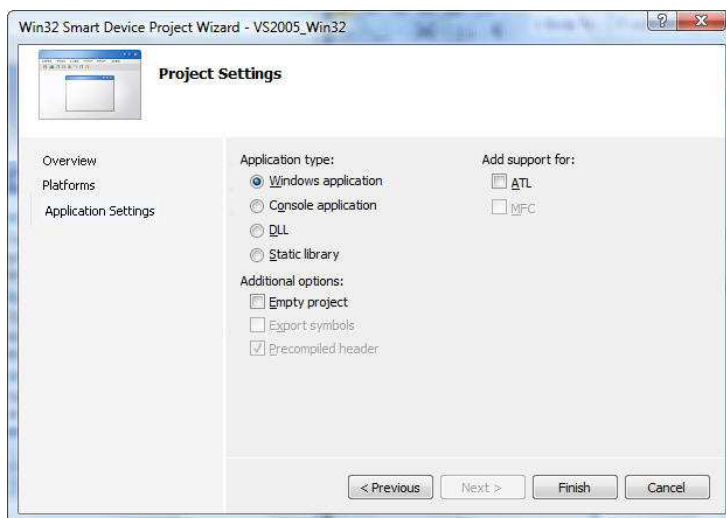

Fig. 52 - Project settings
- Click on the **Next** button to bring up the Project Settings step, as shown in Figure 52.